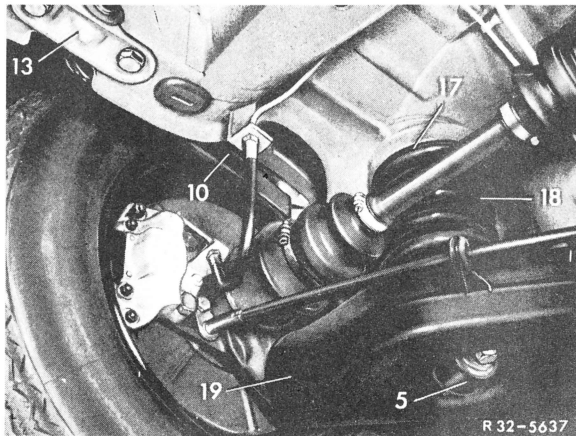

Fig. 7
**9** Unscrew hexagonal lower suspension nuts on the semi-trailing control arm and pull shock absorber down to remove (Fig. 7).
**12** Mount lower suspension to the semi-trailing control arm (Figs. 7, 9 or 10). If vehicle is standing on its own wheels, jack the vehicle up at the rear until the semi-trailing control arm descends to the height of the fastening bracket on the shock absorber.